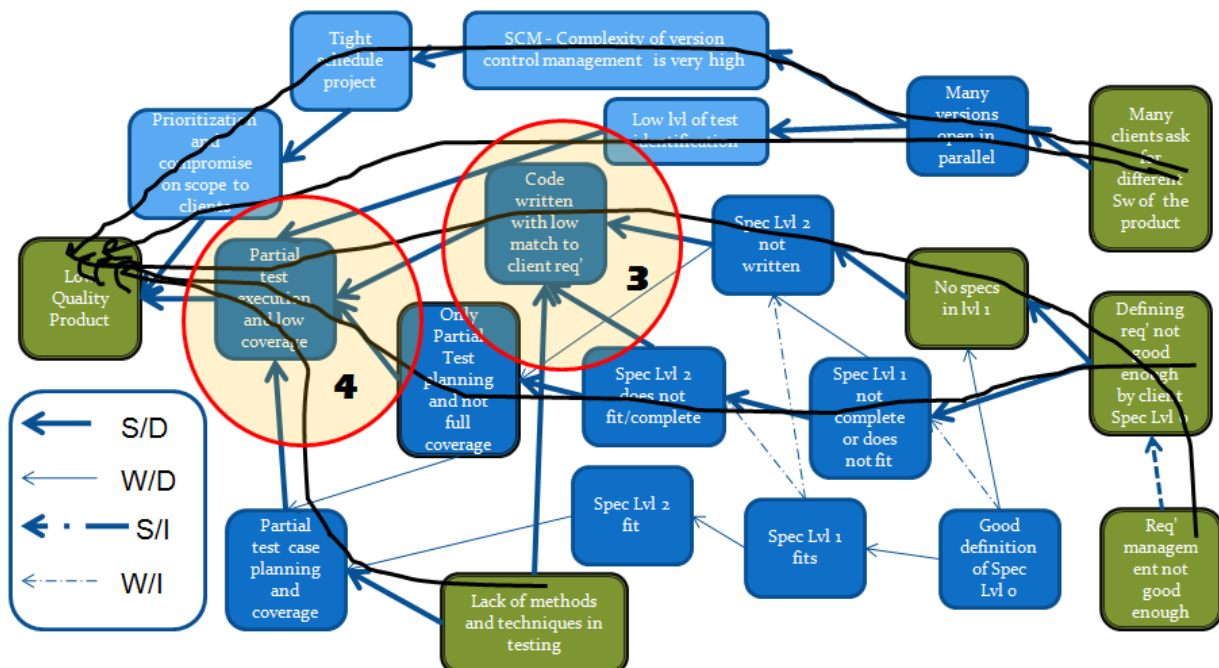

Figure-7: Final draft, inbound/outbound – circles 3 and 4
- What about the junction points (*inbound and outbound – see figure-7*): direct impact of routes with those? Indirect? Impact on speed of performance (bottle-necks)?